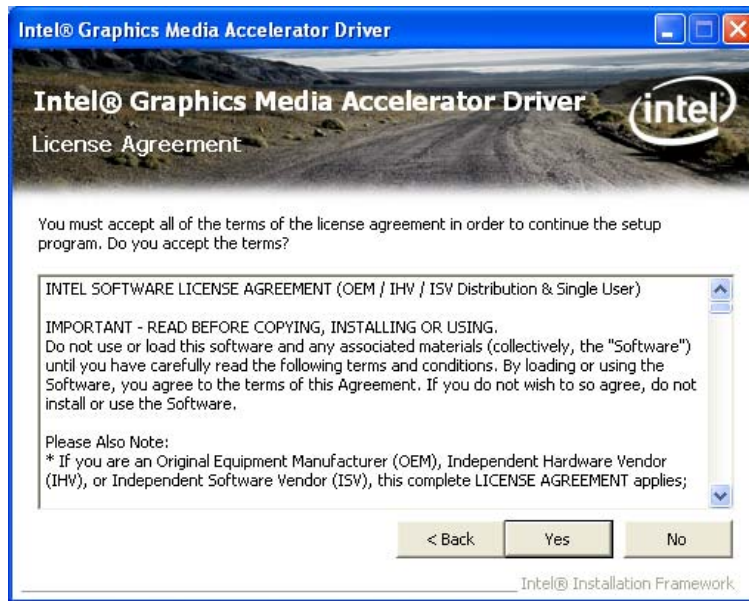

Figure 6-10: VGA Driver License Agreement
- Step 8:** The license agreement in **Figure 6-10** appears.